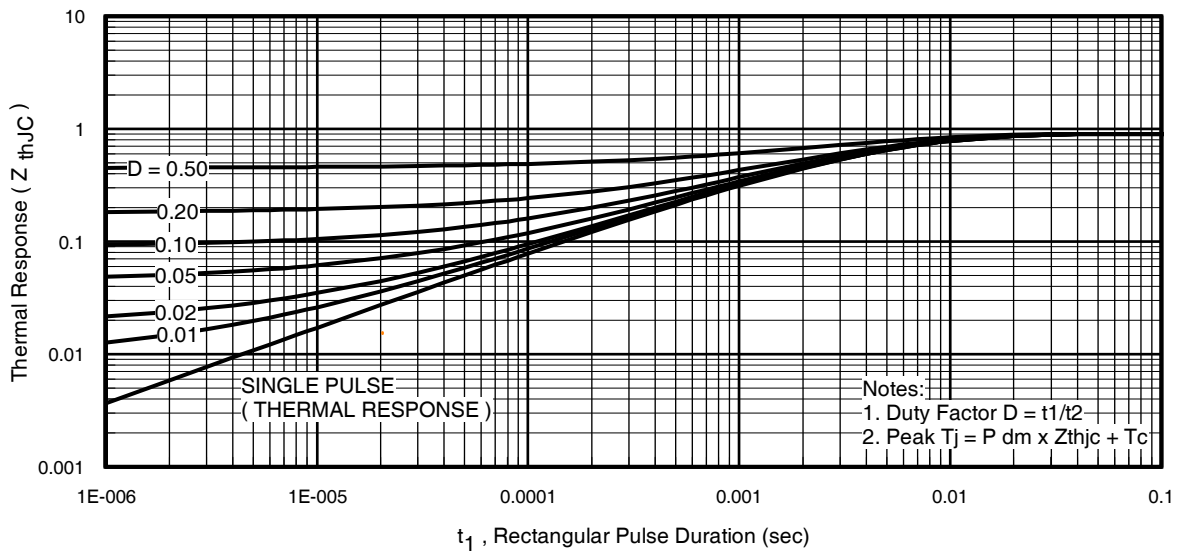
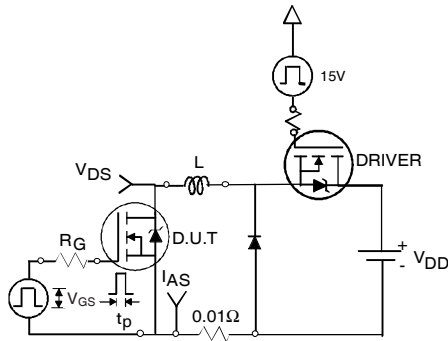

Fig 11. Maximum Effective Transient Thermal Impedance, Junction-to-Case
Fig 12a. Unclamped Inductive Test Circuit
- ① Repetitive rating; pulse width limited by max. junction temperature. (See fig. 11).
- ② Limited by T_{Jmax} , starting $T_J = 25^\circ\text{C}$, $L = 0.12\text{mH}$, $R_G = 25\Omega$, $I_{AS} = 53A$, $V_{GS} = 10V$. Part not recommended for use above this value.
- ③ $I_{SD} \leq 53A$, $di/dt \leq 420A/\mu s$, $V_{DD} \leq V_{(BR)DSS}$, $T_J \leq 175^\circ\text{C}$.
- ④ Pulse width $\leq 1.0\text{ms}$; duty cycle $\leq 2\%$.
- ⑤ $C_{oss\text{ eff.}}$ is a fixed capacitance that gives the same charging time as C_{oss} while V_{DS} is rising from 0 to 80% V_{DSS} .
- ⑥ Limited by T_{Jmax} , see Fig.12a, 12b, 15, 16 for typical repetitive avalanche performance.
- ⑦ This value determined from sample failure population. 100% tested to this value in production.
- ⑧ This is applied to D²Pak, when mounted on 1" square PCB (FR-4 or G-10 Material). For recommended footprint and soldering techniques refer to application note #AN-994.
3. Equation below based on circuit and waveforms shown in Figures 12a, 12b.
$Z_{thJC}(D, t_{av})$ = Transient thermal resistance, see figure 11)